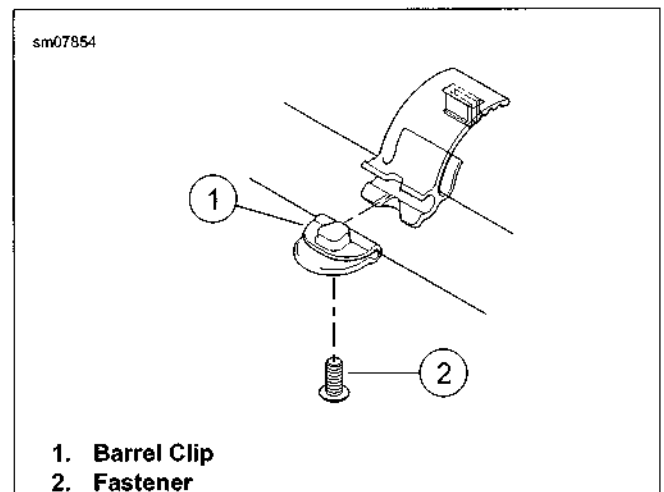

Figure 2-86. Barrel Clip
See Figure 2-86. Install barrel clip (1) with fastener (2). Hand tighten.